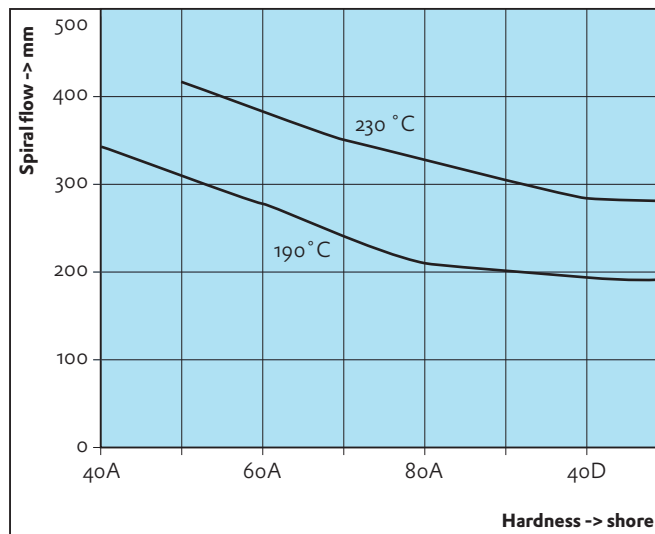

Fig. 1 - The influence of the melt temperature on the spiral flow length\* of Sarlink, at a constant injection time of 1 s
- The viscosity of Sarlink thermoplastic vulcanizates is more sensitive to shear than to heat. Figures 1 and 2 show these influences.
- increased flow length (see figure 1)